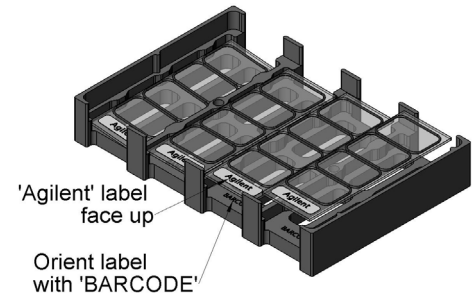

FIGURE 2
2. Place a gasket slide into each chamber in the cassette with the "Agilent" label facing up and aligned with the "barcode" side of the chamber, as shown in Figure 2.